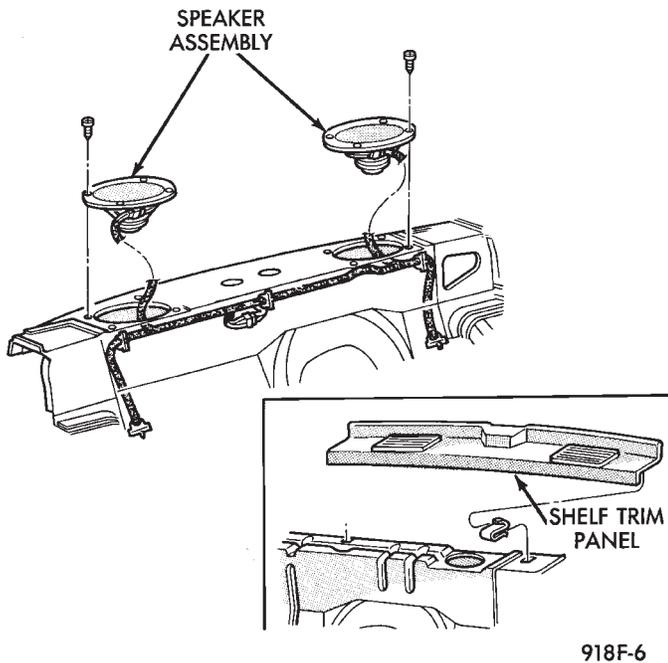

Fig. 34 Rear Speakers—AC and AY Bodies
- (1) Remove seat cushion.
- (2) Remove seat back.
- (3) Remove shelf trim panel (Fig. 34).